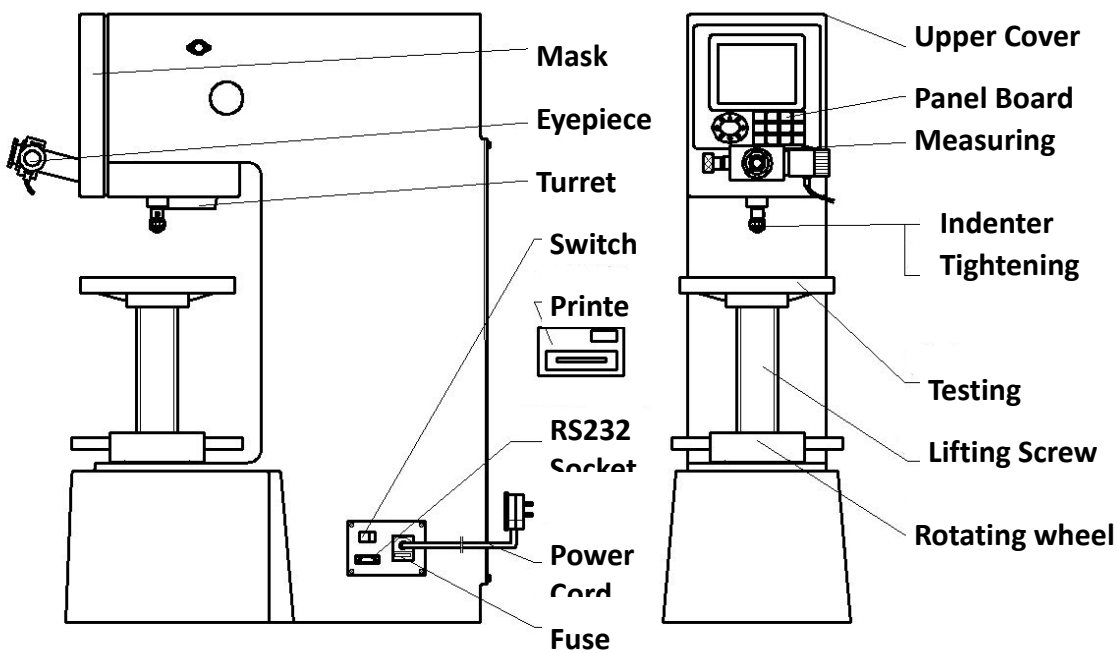

Fig.3
3.3.1 Open the upper cover and unpack the white gauzes that fix movable parts. Remove the cushion block between the lifting screw and ball indenter (see Fig 3).